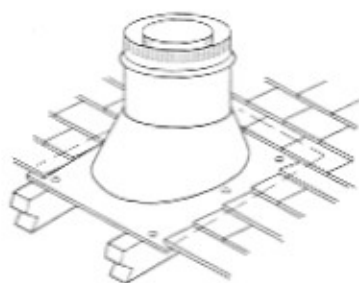

Figure 19
**G.** Extend the vent sections through the roof structure. Install the roof flashing over the vent section and position such that the vent column rises vertically (use carpenter's level) (Figure 19). Nail along perimeter to secure flashing or adjust roofing to overlap the flashing edges at top and sides only and trim where necessary. Seal the top and both sides of the flashing with waterproof caulking.